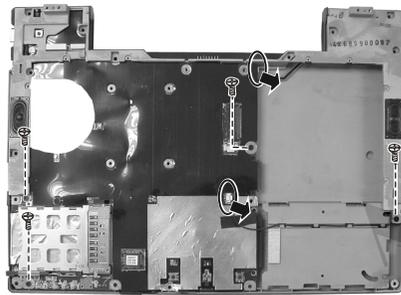

Figure 2-29 Remove four screws and disconnect the two cables
2. Remove the four screws that secure the system board and disconnect the two speaker's cables. Then lift it up from the housing. (Figure 2-29)